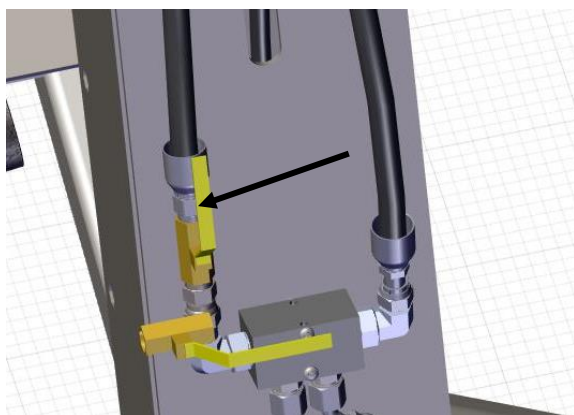

Figure 4
3. To remove the gauge wheel Airbag move the valve on the front of the strut Figure 4 90 degrees to to the air line.